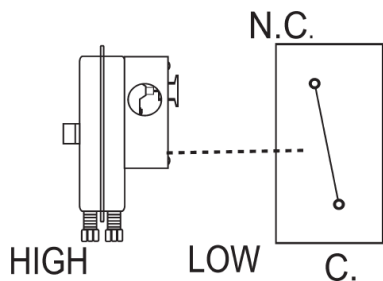
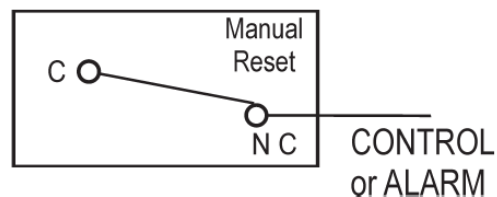

Figure 8
Figure 9
Before pressure is applied to the diaphragm, the switch contacts will be in the normally closed (NC) position as shown in Figure 8. The snap switch has screw top terminals with cup washers. Wire alarm or control application as shown in Figure 9.